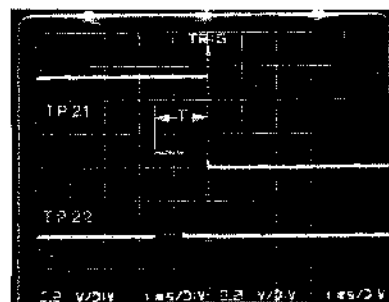

Fig. 23
- Play-back (SP) the colour part of the alignment tape.
- Adjust R 280 in the servo section of PM01 such that the leading edge of the signal on TP222 1.6 $\pm$ 0.4 msec. later is than the trailing edge of the signal on TP221 (Fig. 23).